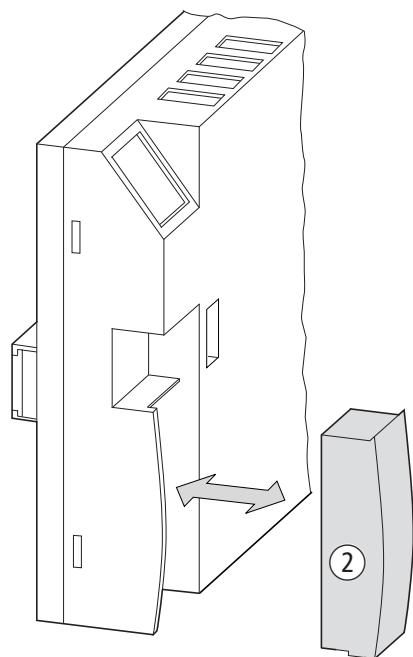

Figure 77: Connecting and removing the memory card b
▶ Remove the cover from the interface and connect the connector memory card ➔ Figure 77, page 94.